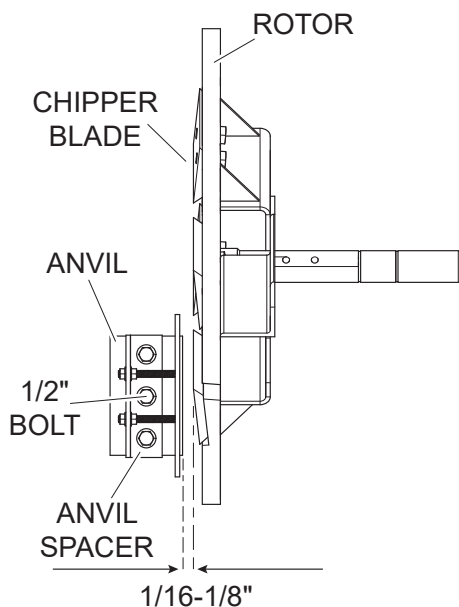
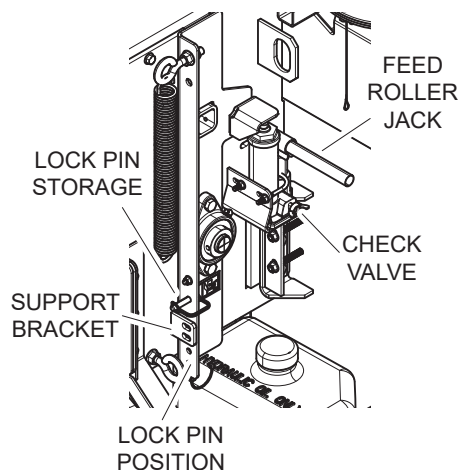

Figure 5.5, Chipper Blade/Anvil Clearance
Figure 5.6, Feed Roller Jack
4. Raise the feed roller (see Figure 5.6). Install anvil spacing gauge (see Figure 5.5).
3. Remove the lock pin from storage position (see Figure 5.6).